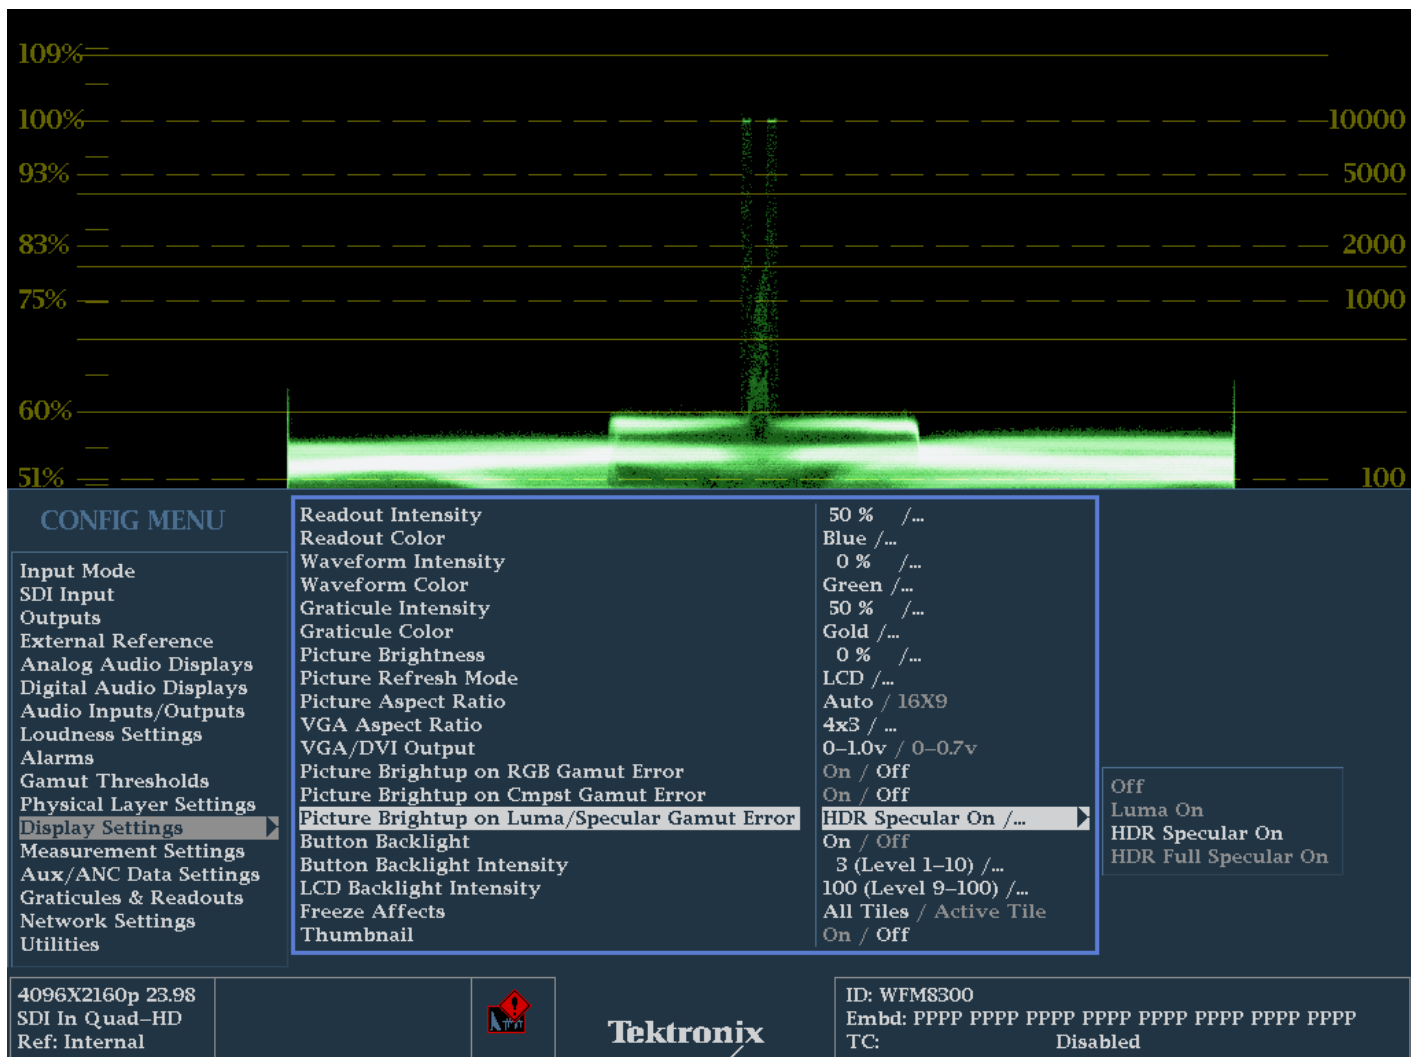

FIGURE 9. Configuration menu for enabling specular highlight Zebra pattern within picture display.
3. Press **SEL** to enter the sub menu and select either **HDR Specular On** or **HDR Full Specular On** depending on the HDR format you are currently using. In this case I selected **HDR Specular On** as shown in Figure 9.